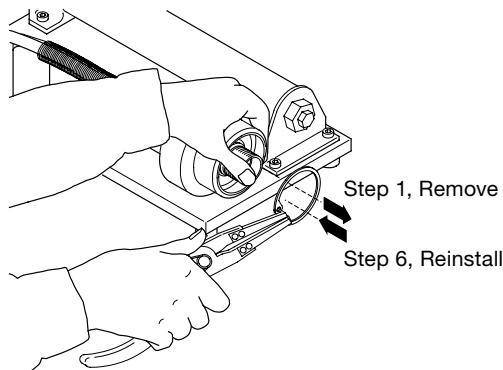

Fig. 1 Retaining Ring Removal / Reinstallation
1. Remove the **retaining ring** from the **hydraulic housing** using the **retaining ring pliers**. See Fig. 1.
6. Reinstall the **retaining ring** into the **hydraulic housing** using the **retaining ring pliers**. See Fig. 1.